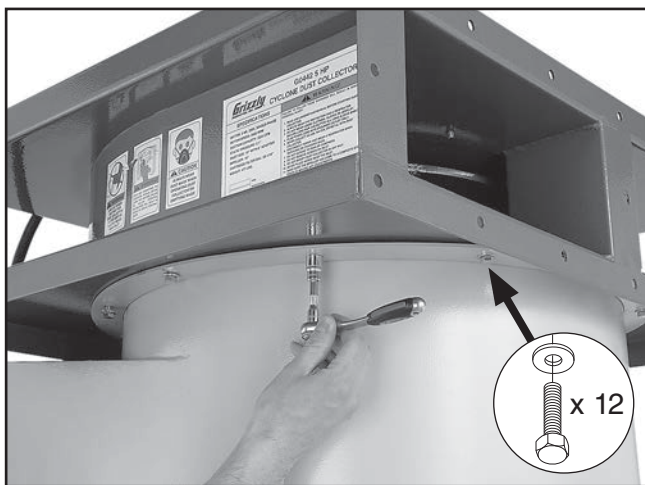

Figure 15. Securing blower on intake barrel.
17. Attach assembly to intake barrel, as shown in **Figure 15**, with (12) $\frac{5}{16}$ "-18 x $\frac{3}{4}$ " hex bolts and $\frac{5}{16}$ " flat washers.